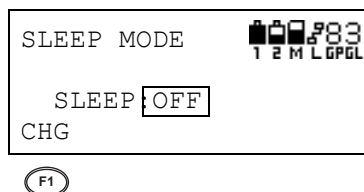

Figure 3-6. Press F1 to Change Sleep Mode Setting
- On the SLEEP MODE screen, press the **F1 (CHG)** key (Figure 3-6) to change the sleep mode setting.